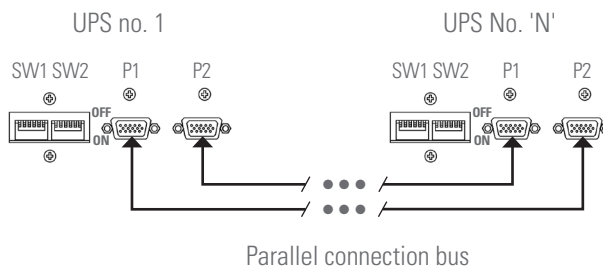

Fig. 25. DB15 connectors on the communication bus.
- Parallel connection bus.** Use the 15-wire signal hose with mesh and DB15 connectors at the ends to attach a maximum of 5 sub-racks with the sequence shown in Fig. 25. Each hose has a male and a female connector at the ends, which must be connected between two correlative devices. It is imperative to close the bus loop in parallel. The length of the parallel cable is about 1.5 meters and should not be prolonged under any circumstances due to the risk of interferences and failures in the communication that this would entail.
Fig. 25 shows an installation with two devices in parallel. For five units, proceed similarly to close the communications bus.